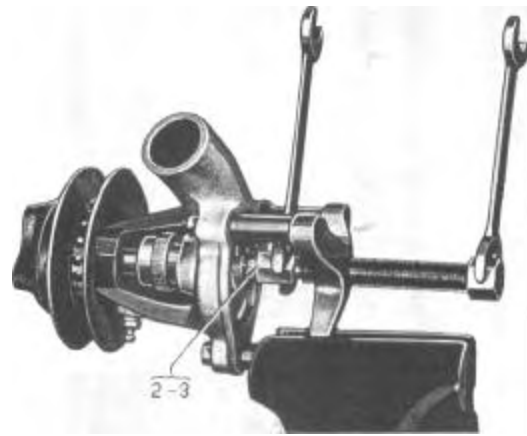

Figure 506—Cutting Burr Off Shaft
4. After the water pump is removed from the engine, attach the fixture to the water pump with the three cap screws. Figure 506.
6. Turn cutter with wrench (Figure 506) while feeding with screw until ~~wood flange is out off shaft. Remove cutter and center.~~